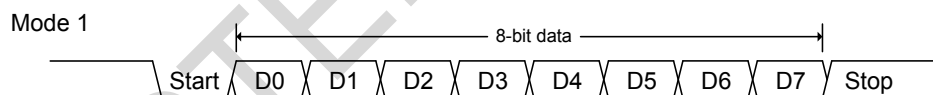
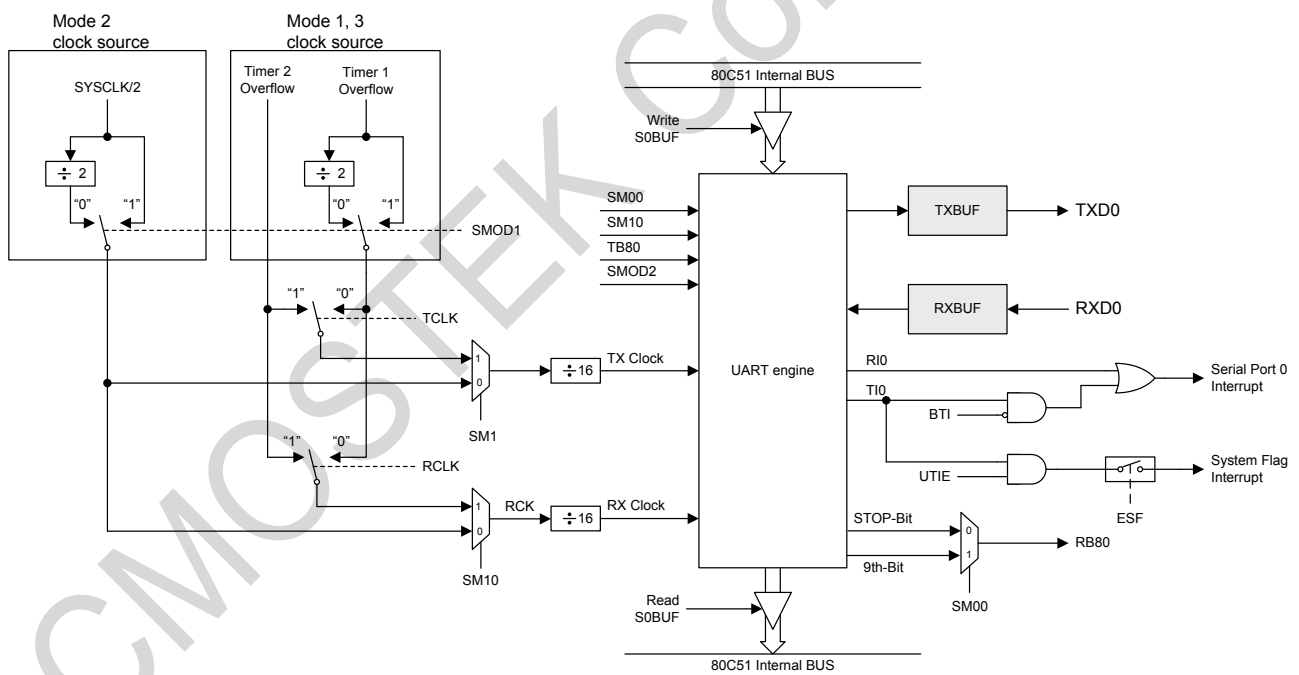

Figure 17-1. Mode 1 Data Frame
Figure 17-6. Serial Port Mode 1, 2, 3
- Mode 1:** 10 bits are transmitted through TXD0 or received through RXD0. The frame data includes a start bit (0), 8 data bits (LSB first), and a stop bit (1), as shown in Figure 17-1. On receive, the stop bit would be loaded into RB80 in S0CON register. The baud rate is variable.
10 bits are transmitted through TXD0, or received through RXD0: a start bit (0), 8 data bits (LSB first), and a stop bit (1). On receive, the stop bit goes into RB80 in S0CON. The baud rate is determined by the Timer 1 or Timer 2 overflow rate. Figure 17-1 shows the data frame in Mode 1 and Figure 17-6 shows a simplified functional diagram of the serial port in Mode 1.
Transmission is initiated by any instruction that uses S0BUF as a destination register. The “write to S0BUF” signal requests the UART0 engine to start the transmission. After receiving a transmission request, the UART0 engine would start the transmission at the raising edge of TX Clock. The data in the S0BUF would be serial output on the TXD0 pin with the data frame as shown in Figure 17-1 and data width depend on TX Clock. After the end of 8th data transmission, TI0 would be asserted by hardware to indicate the end of data transmission and its interrupt vector can be switched to System Flag interrupt by BTI and UTIE gated.